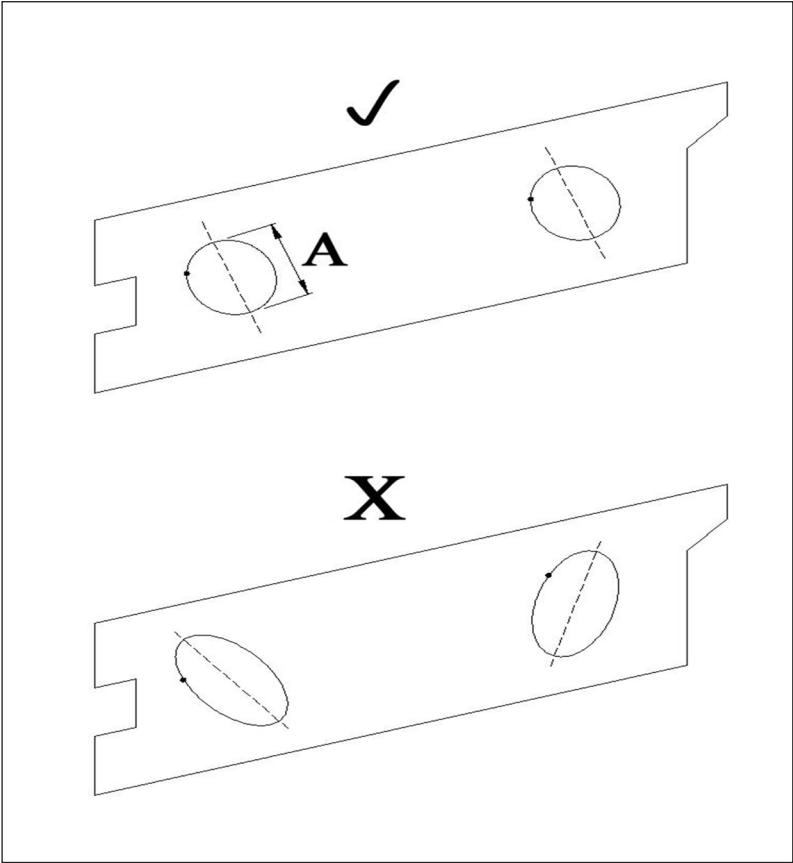

Figure 6.23 - Screen Tuning
3. If the box is correctly balanced the dot on each corner will trace a slight ellipse see Figure 6.23.
4. If the box is out of tune, 2 or more of the corners will trace a pronounced ellipse see Figure 6.23.
Causes for the fault condition shown in Figure 6.23.